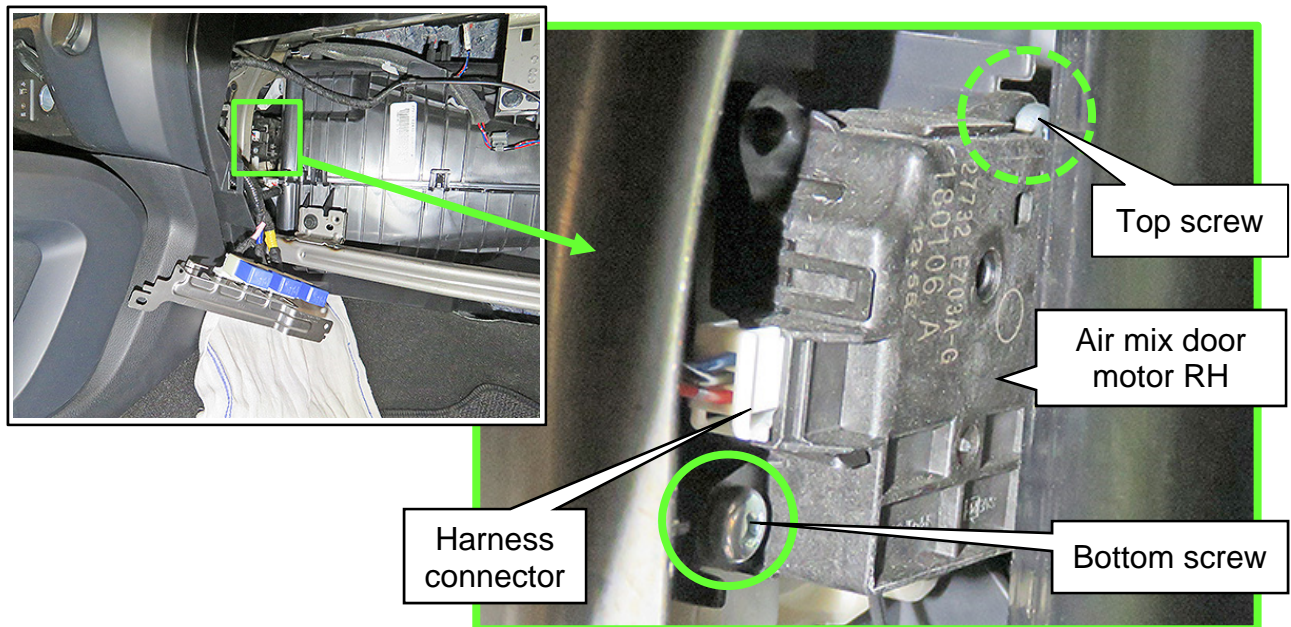

Figure 7
5. Disconnect the air mix door motor RH harness connector (see Figure 7).
6. Remove the two (2) screws shown in Figure 7, and then remove the air mix door motor RH from the vehicle.
- Remove the top screw (partially hidden in Figure 7), using a long handled bit driver tool with the special short #2 Phillips bit (part number J-53012).